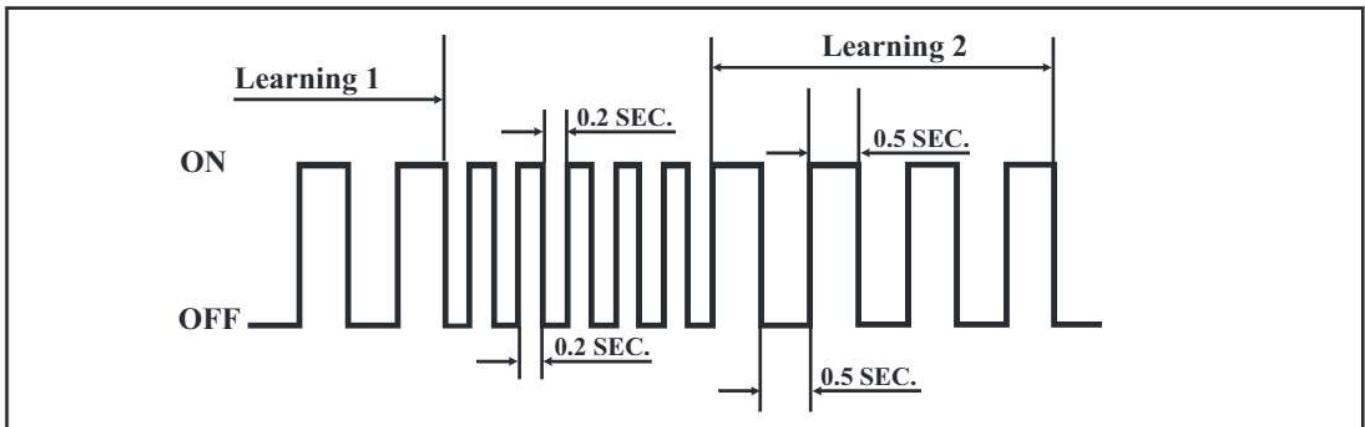

Figure 40
10. Turn the Overdrive ON (switch is IN). The Overtemperature Lamp will begin to blink slowly as seen in Figure 40.